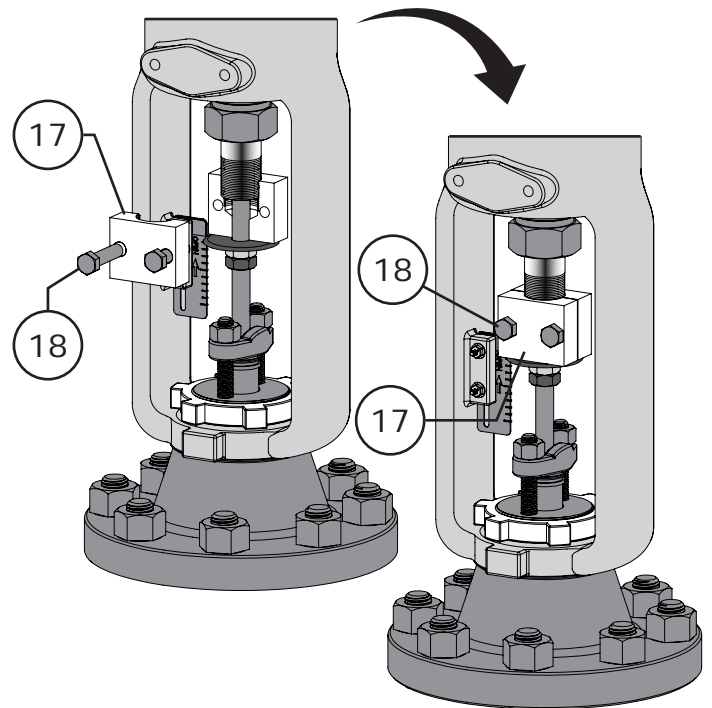

Figure 10 Standard DFO Connecting Block Assembly
- 1 The following procedures must be completed before installing the connecting block (Key 17). If the connecting block is still attached to the actuator stem (Key 9), remove it by removing the connector cap screws (Key 18). Refer to Figures 10 & 11.
- 4 Align the connecting block (Key 17) with the window of the yoke (Key 1) and install the connecting block using cap screws (Key 18), refer to Figure 10. Be careful to achieve proper thread engagement between the stems and the connecting block, avoid cross-threading any threads. A slight change to operating pressure may be necessary to help with alignment. Tighten the cap screws to the torque value listed in Table 4.